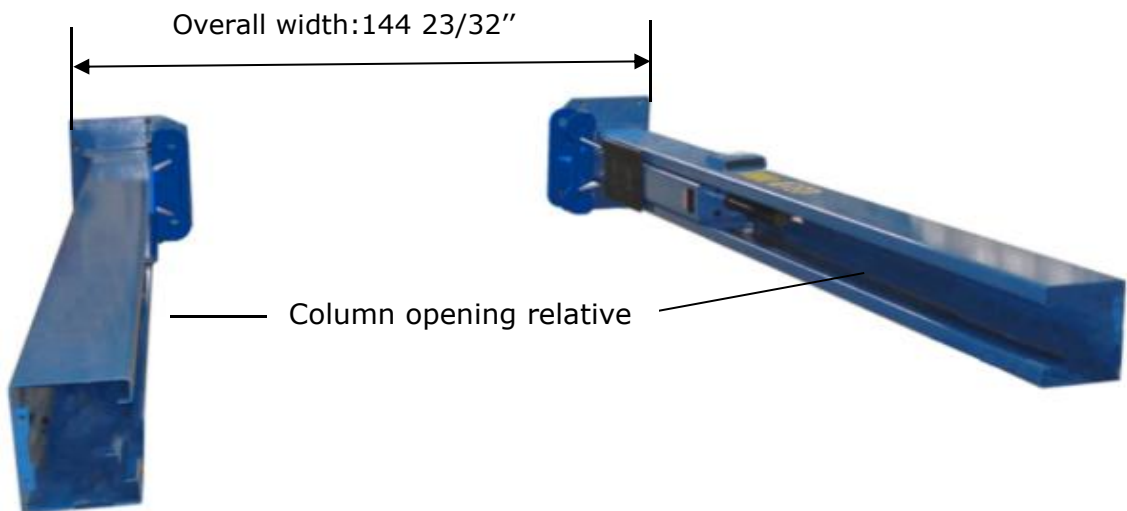

Fig. 13
E. Lay down aside the columns with cables and oil hoses installed, face the open way of each columns. (Fig.13)